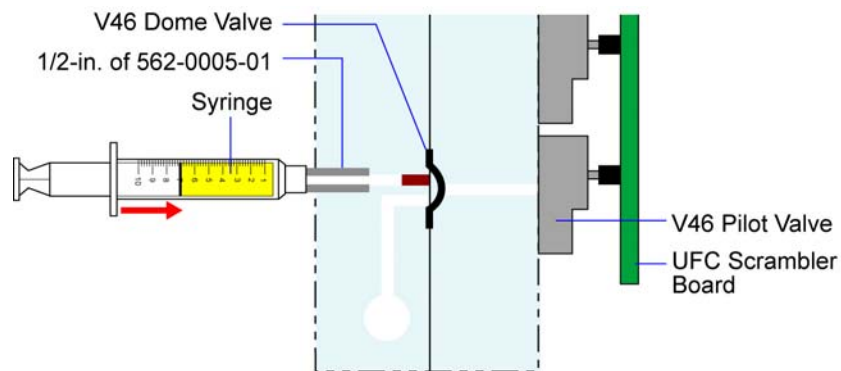

Figure 13. Using syringe with bleach solution
9. Once the V46 path is clear, aspirate bleach through the line and rinse thoroughly with distilled water. See **Figure 13**.